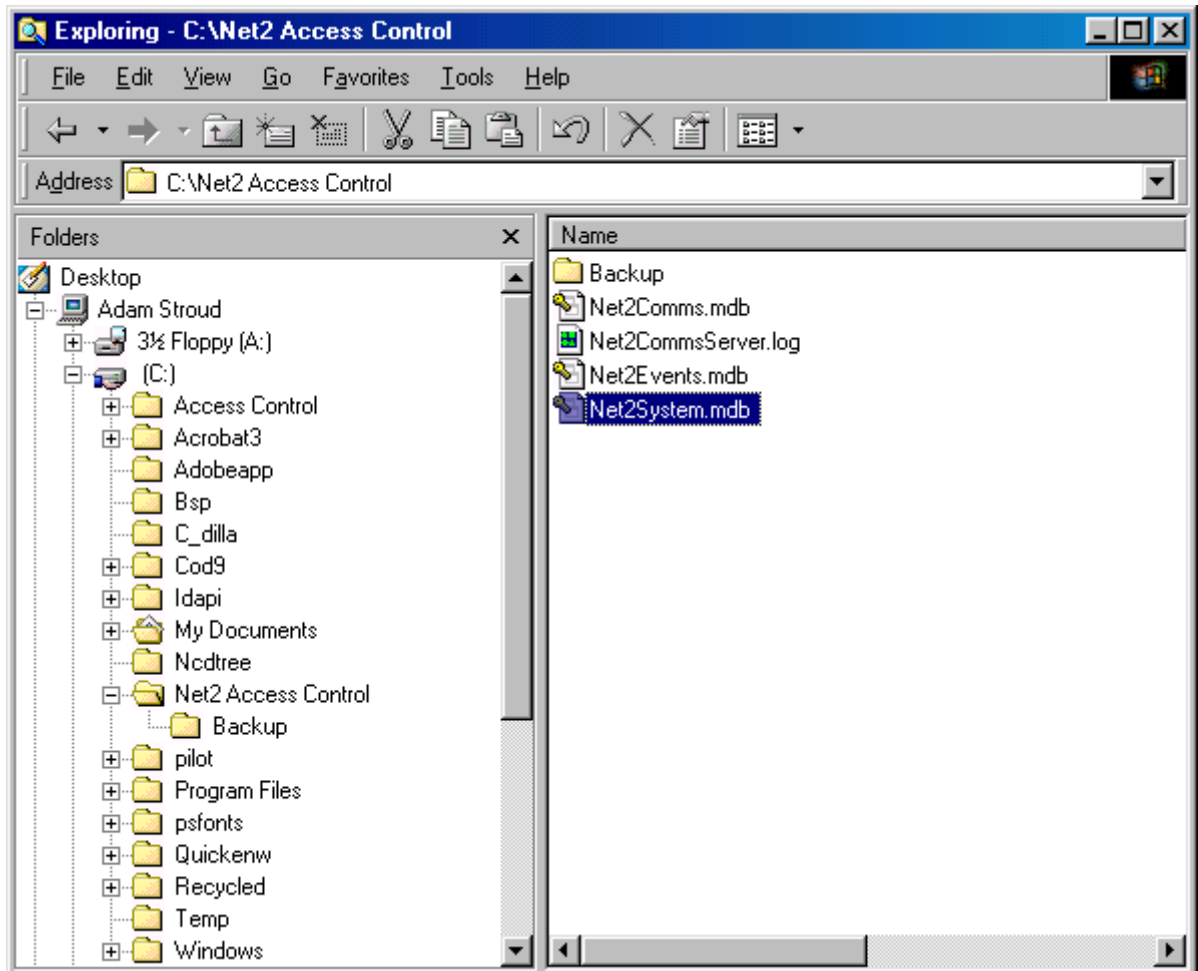

Figure 4.23
2. Open Windows Explorer and browse to C:\Net2 Access Control, see figure 4.23.